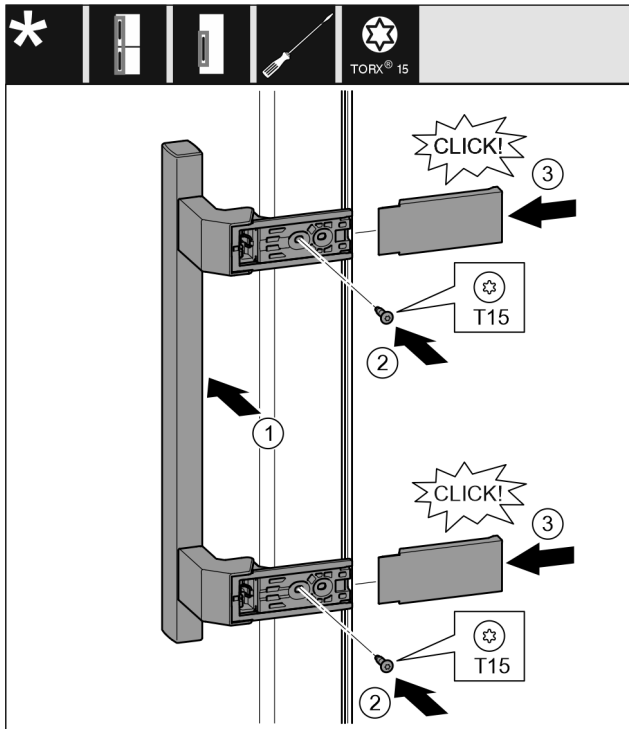

Fig. 22
- ▶ Position the handle on the opposite side. Fig. 22 (1)
- ▶ Tighten the screws using the T15 screwdriver. Fig. 22 (2)
- ▶ Position the covers on the side and push them on. Fig. 22 (3)